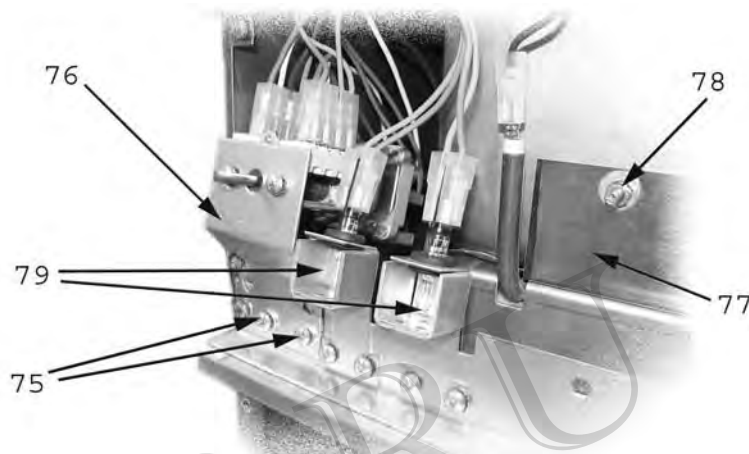

Fig. 21
- unscrew the screws that fix the thermostat to the frame (item 75 in Fig. 21);
- detach the thermostat assembly from its support (item 76 in Fig. 21);
- slide out the thermostat bulb from the support fixed to the tank wall (item 77) by loosening the screws shown as item 78;